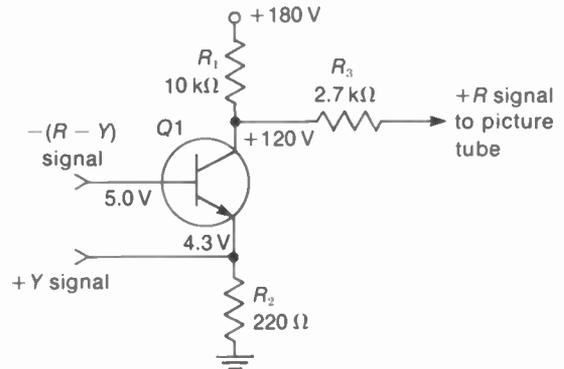

FIGURE 17-24 CIRCUIT FOR MATRIXING  $-(R - Y)$  AND Y SIGNALS IN A COLOR VIDEO AMPLIFIER.
**Matrixing in color video amplifiers.** Figure 17-24 shows an example of matrixing Y signal in an  $R - Y$  amplifier. The NPN transistor Q1 is a color video amplifier for  $-(R - Y)$  signal at the base, but Y signal is also injected at the emitter. In terms of the input color signal, it is amplified and inverted to produce  $R - Y$  signal at the collector. However, the Y signal at the emitter is amplified without phase inversion. The resultant output signal from the collector is equivalent to  $R - Y + Y = R$ .
For the circuit in Fig. 17-24, the  $10\text{-k}\Omega$   $R_1$  is the collector load resistance. The  $220\text{-}\Omega$   $R_2$  is the emitter resistance for Y input. For Y signal, the stage is effectively a common-base amplifier, without phase inversion. For the  $-(R - Y)$  signal at the base, the stage is a common-emitter amplifier. Both the Y and  $R - Y$  signals are developed in the collector output circuit. The  $2.7\text{-k}\Omega$   $R_3$  is an isolating resistance for the coupling circuit to the control grid of each gun in the picture tube.